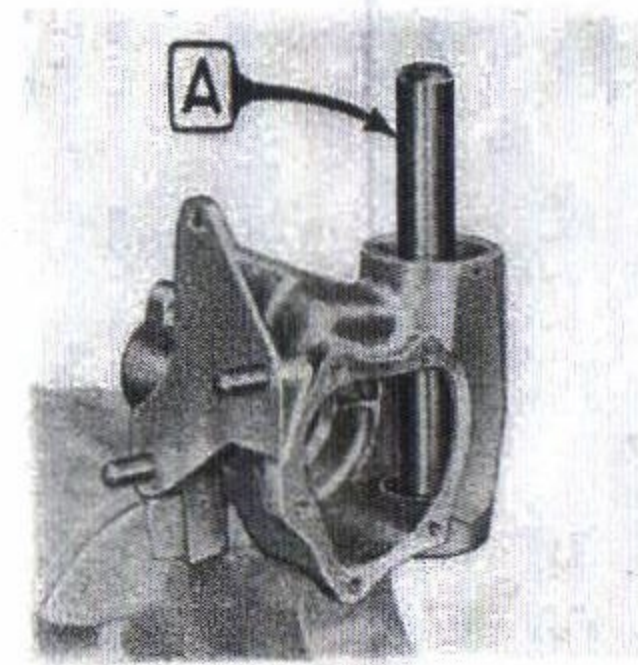

Fig. 98.
- A. 10110 (Fig. 98) Tool for dismantling the steering box oil seal.